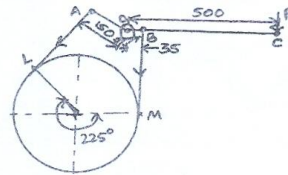

Fig.Q6(b)
- b. A differential band brake as shown in Fig.Q6(b), has an angle of contact of  $225^\circ$ . The band has a compressed woven lining and bears against a cast iron drum of 350 mm diameter. The brake is to sustain a torque of 350 N-m and the coefficient of friction between the band and the drum is 0.3. Find (i) the necessary force P for the clockwise and anticlockwise rotation of the drum. (ii) The value of 'OA' for the brake to be self locking when the drum rotates clockwise. (10 Marks)